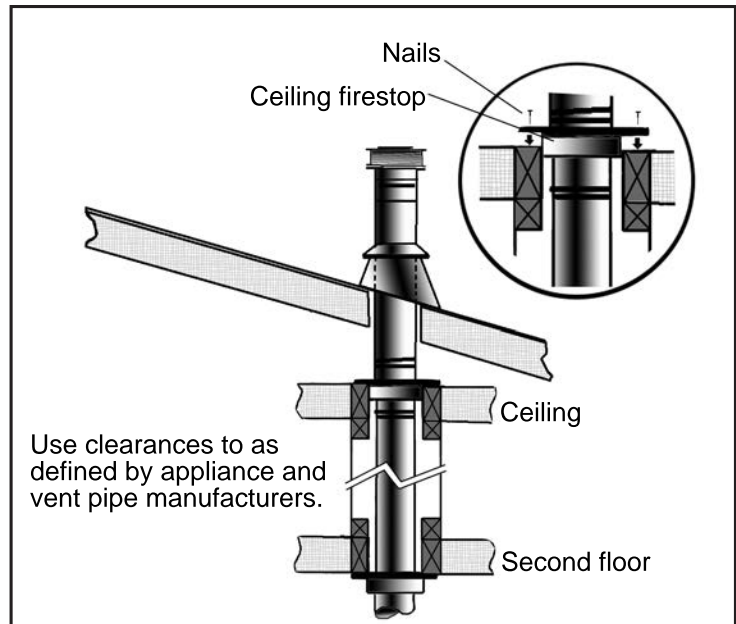

Figure 32: Multi-Story Vent Pipe Installation
- (c) For multi story installations. A ceiling firestop is required at the second floor, and any subsequent floors (see Figure 32). The opening should be framed to 10" (25.4 cm) x 10" (25.4 cm) inside dimensions, in the same manner as shown in Figure 28.